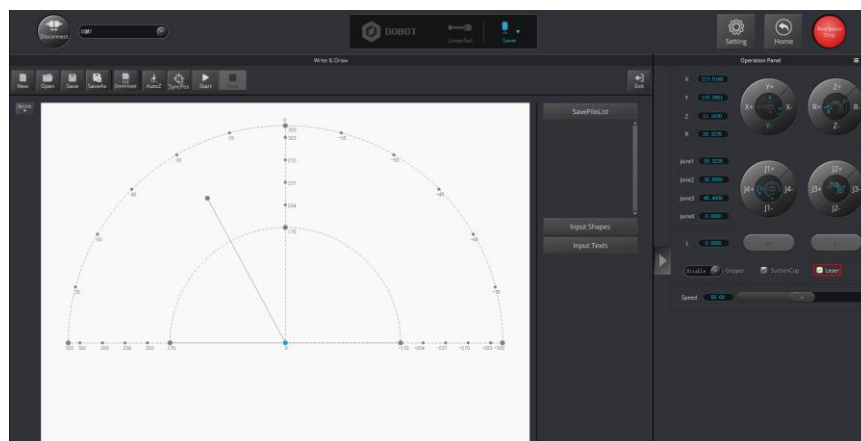

Figure 5.79 Turn on the laser
- Step 2** Click  to display the **Operation Panel**, and then select **Laser** to turn on the laser, as shown in Figure 5.79. In this case, the laser gives out a laser beam.